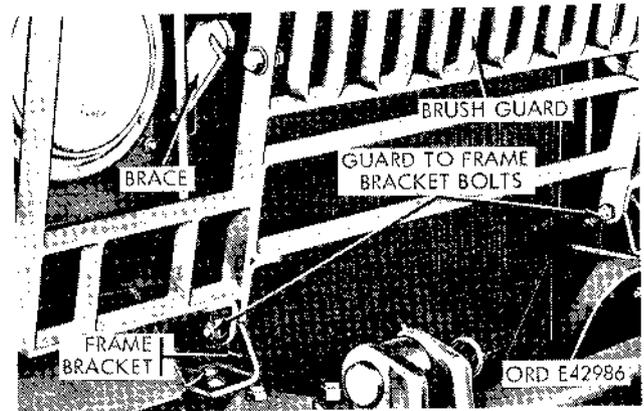

Figure 2-218. Removing brush guard.
a. Removal (fig. 2-218).
- (1) Unscrew the two brace nuts. Remove the nuts and bolts.
- (2) Remove the two mounting bolts. Pull the brush guard forward, and remove it from the vehicle.
b. Installation (fig. 2-218).
- (1) Position the brush guard and secure it with two mounting bolts.
- (2) Secure the guard to braces with two bolts and nuts. Tighten all bolts and nuts securing the guard to the vehicle.